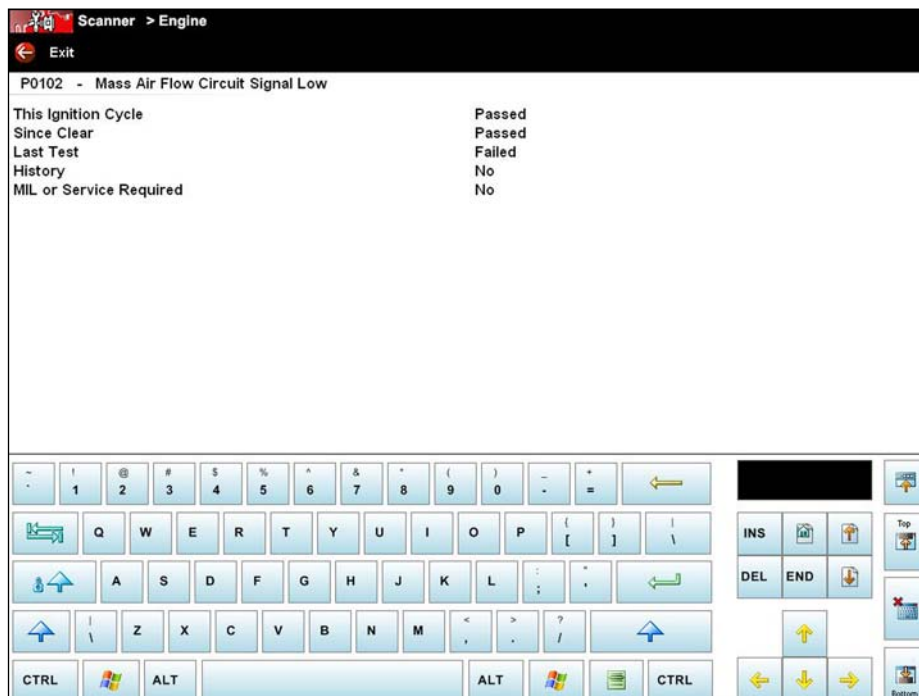

Figure 4-22 Sample DTC status report
4. Select the **Return** key once all the code characters are entered to open a report (Figure 4-22).